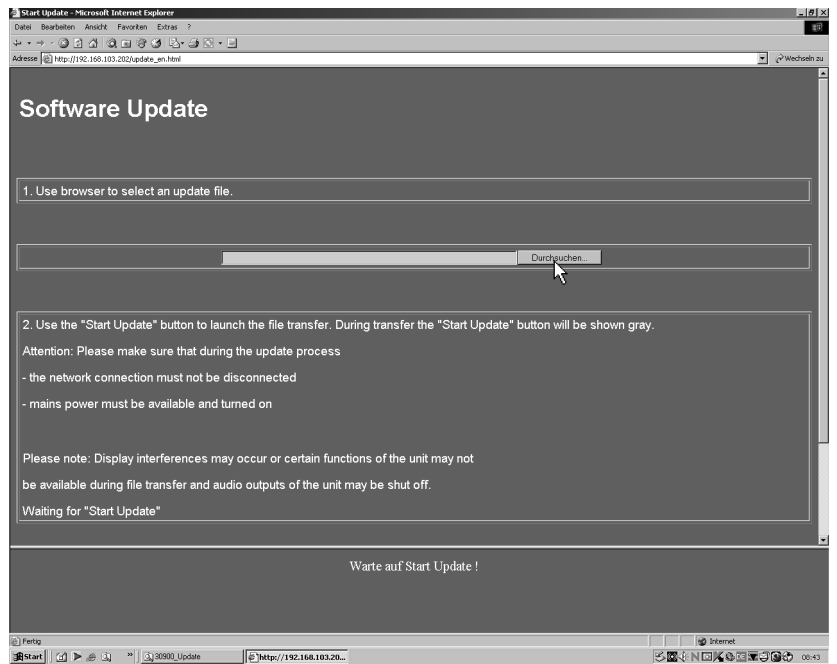

Fig. 5-11: Display of the Software Update menu page („Durchsuchen“)
3. Select "Durchsuchen" (see Fig. 5-11).
13. Use the displayed dialog (see Fig. 5-11) to select („Durchsuchen“) the **fourth** of the four update files.